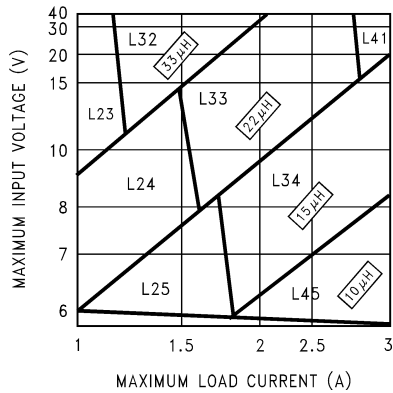
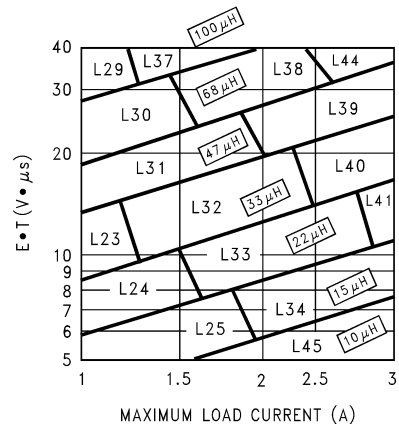

Figure 18. LM2673-3.3
Figure 21. LM2673-ADJ
**Step 3:** Determine the inductor required by using one of the four nomographs, Figure 18 through Figure 21. Table 1 provides a specific manufacturer and part number for the inductor.
**Step 5:** Determine an input capacitor from Table 6 and Table 9 for fixed output voltage applications. Use Table 3 or Table 4 to find the specific capacitor type. For adjustable output circuits select a capacitor from Table 3 or Table 4 with a sufficient working voltage (WV) rating greater than  $V_{in\ max}$ , and an rms current rating greater than one-half the maximum load current (2 or more capacitors in parallel may be required).
**Step 3:** Use the nomograph for the 3.3V device, Figure 18. The intersection of the 16V horizontal line ( $V_{in\ max}$ ) and the 2.5A vertical line ( $I_{load\ max}$ ) indicates that L33, a 22 $\mu$ H inductor, is required.
**Step 3:** To use the nomograph for the adjustable device, Figure 21, requires a calculation of the inductor Volt•microsecond constant (E•T expressed in V• $\mu$ S) from the following formula:
Using Figure 21, the intersection of 27V• $\mu$ S horizontally and the 2A vertical line ( $I_{load\ max}$ ) indicates that L38, a 68 $\mu$ H inductor, should be used.
When using the adjustable device in low voltage applications (less than 3V output), if the nomograph, Figure 21, selects an inductance of 22μH or less, Table 12 and Table 13 do not provide an output capacitor solution. With these conditions the number of output capacitors required for stable operation becomes impractical. It is recommended to use either a 33μH or 47μH inductor and the output capacitors from Table 12 or Table 13.